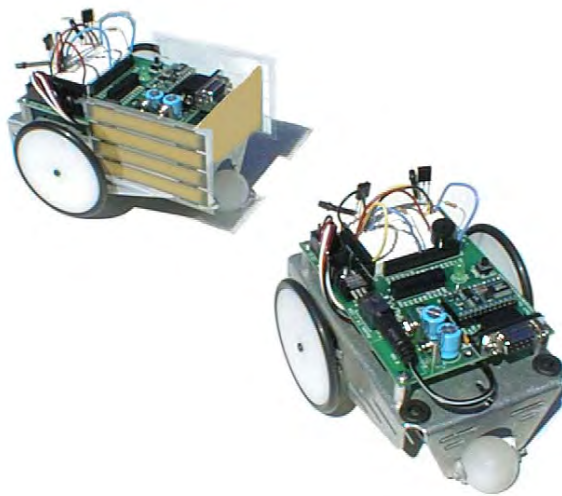

**Figure 8-6**
Figure 8-6 shows a lead Boe-Bot followed by a shadow Boe-Bot. The lead Boe-Bot is running a modified version of `FastIrRoaming.bs2`, and the shadow Boe-Bot is running `FollowingBoeBot.bs2`. Proportional control makes the shadow Boe-Bot a very faithful follower. One lead Boe-Bot can string along a chain of 6 or 7 shadow Boe-Bots. Just add the lead Boe-Bot's side panels and tailgate to the rest of the shadow Boe-Bots in the chain.
- ✓ If you are part of a class, mount paper panels on the tail and both sides of the lead Boe-Bot as shown in Figure 8-6.